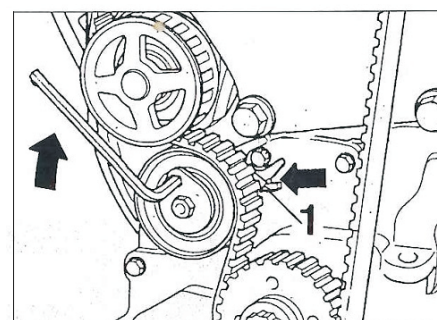

FIG. 3
- ① Mount the timing belt starting with the crankshaft pulley.
- ② Turn the tensioner clockwise until the mobile indicator is aligned with the groove [FIG. 3] (1) and tighten the nut (20 Nm).
- ③ Rotate the crankshaft turning 4 times to check the correct assembly. After, make sure that the mobile indicator is aligned with the groove [FIG. 3] (1).
- ④ Proceed with the rest of the assembly.